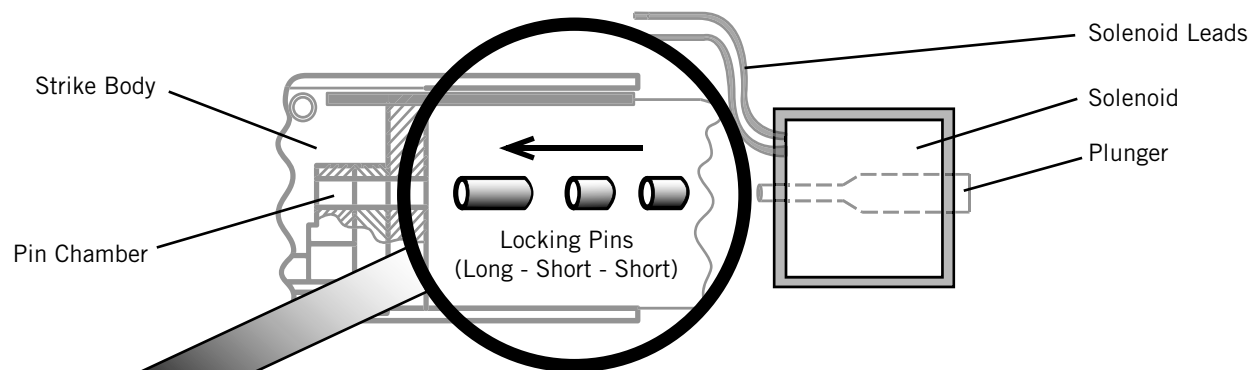
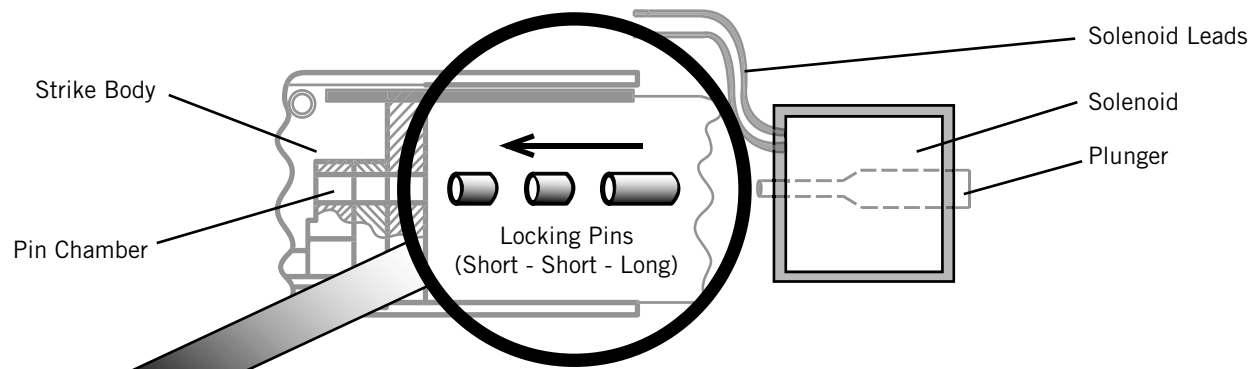

Fig. 5 - Power To Open (Fail-Safe) Configuration
Fig. 6 - Power To Lock (Fail-Secure) Configuration
3. Re-insert the pins as shown in the diagrams for desired mode of lock operation (Power to Open: see Fig. 5; Power to Lock: see Fig. 6).